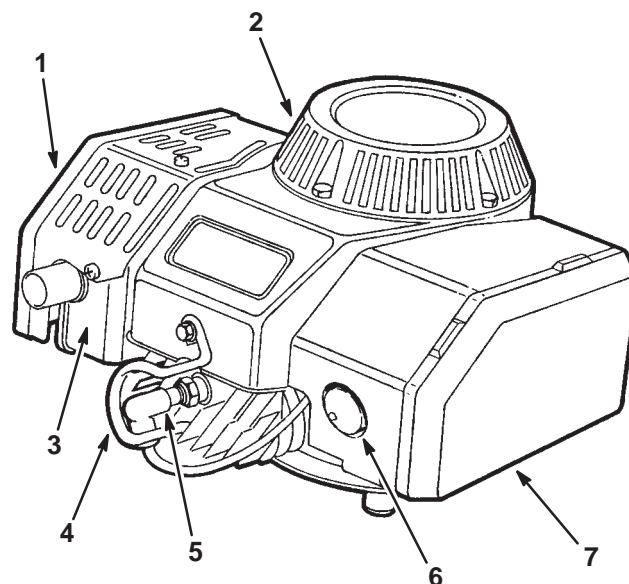

Figure 2
Fasten the spark plug protector to the engine using the self-tapping screws provided with the engine (Fig 2).
- A muffler guard extension is attached to the muffler. This is a European safety requirement and is not necessary for USA applications (Fig. 2).